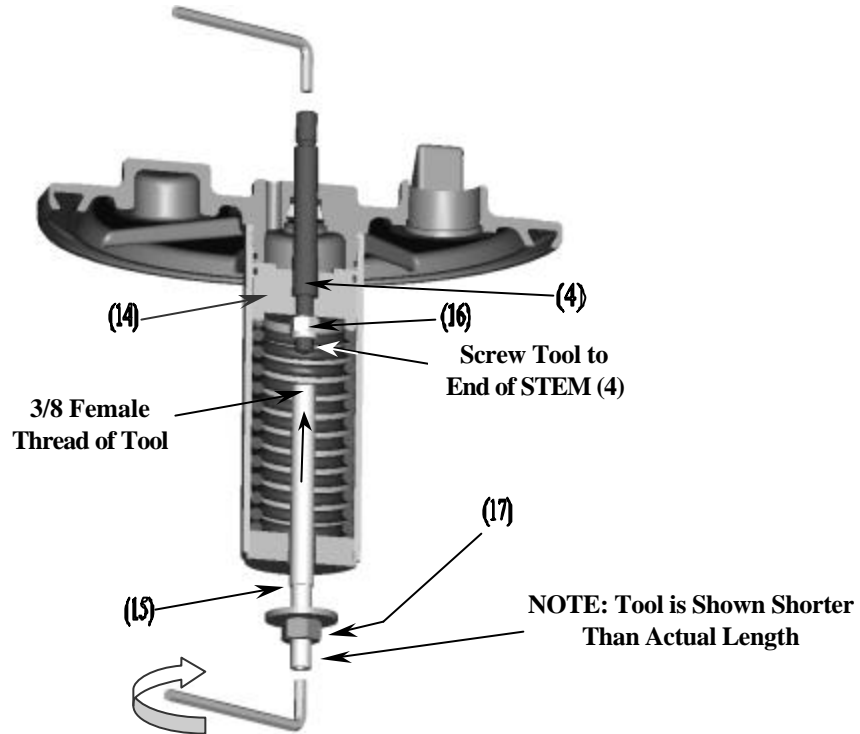

Figure 8
7. Insert the 3/8 female thread end of the *Disassembly Tool (15)* (part # 6684MS) into the 1/2 in. NPT opening as shown in figure 8.
8. Thread the *Disassembly Tool (15)* onto the 3/8 male thread of the *Stem (4)* that extends from the *Lock Nut (16)*. See figure 8. **The tool should engage at least four threads.**